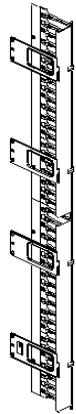

Fig. 1
1. The Finger cable manger (Fig. 1) attaches to the Equipment mounting rail (Fig. 2).